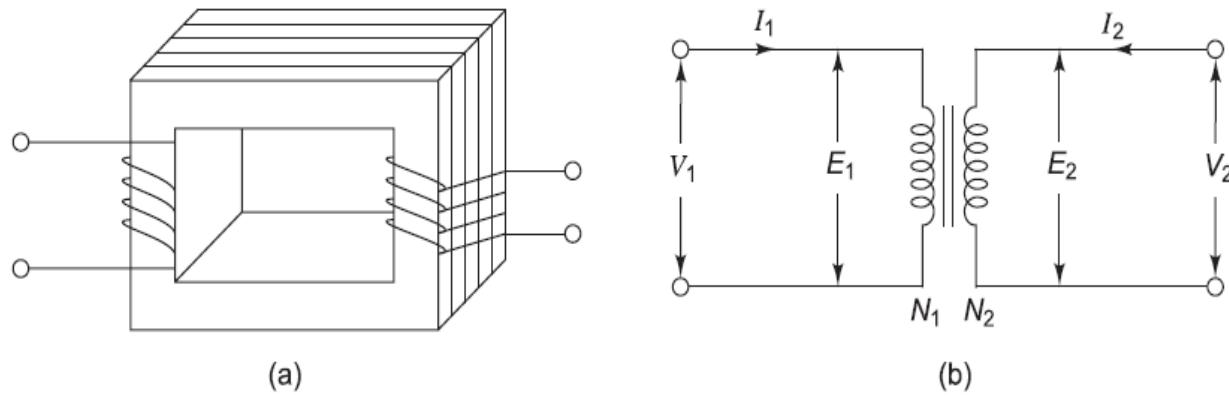

Fig. 6.5 Working principle of a transformer
- The symbol of transformer is shown in Fig. 6.5(b).